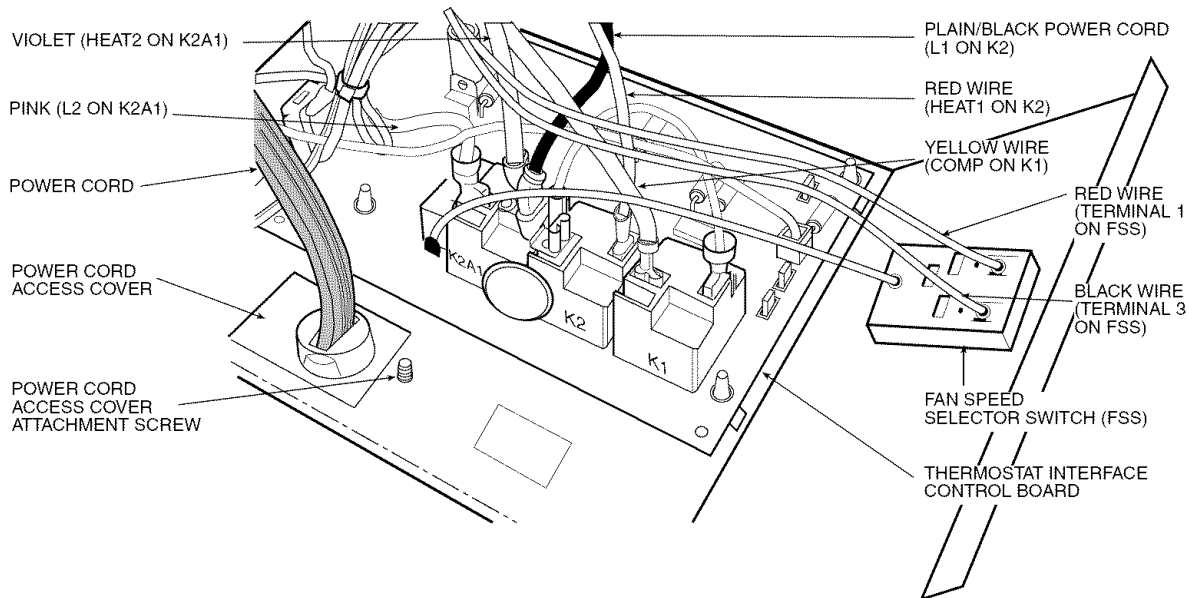

Fig. 6 — Typical Wall Thermostat Interface Board Terminal Connections (Heat/Cool Control Board Shown)
7. Reconnect the following wires on control board (see Fig. 6):
8. Attach the Red fan motor wire to terminal 1 on fan speed selector switch (FSS) and the Black fan motor wire to terminal 3 on FSS. See Fig. 6.
11. Reconnect the following wires on control board (see Fig. 6):
12. Attach red fan motor wire to terminal 1 on Fan Speed Selector switch (FSS) and the black fan motor wire to terminal 3 on FSS. (See Fig. 6.)
9. Reconnect the following wires on control board (see Fig. 6).
10. Attach red fan motor wire to terminal 1 on Fan Speed Selector switch (FSS) and the black fan motor wire to terminal 3 on FSS. See Fig. 6.